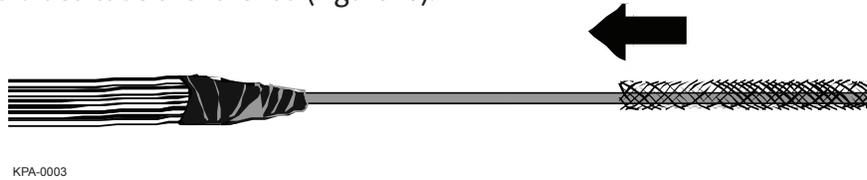

Figure 16
Step 2: Push the braided tube over the rod (Figure 16).